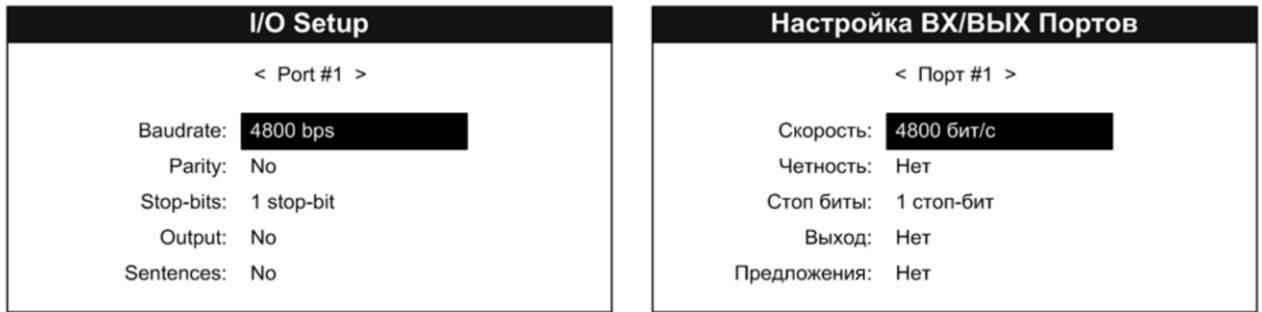

Figure 41 – Settings of input/output ports
- select a port using “◀” and “▶” buttons; select a parameter using “▼” and “▲”. Press “ENTER”, see Figure 41;